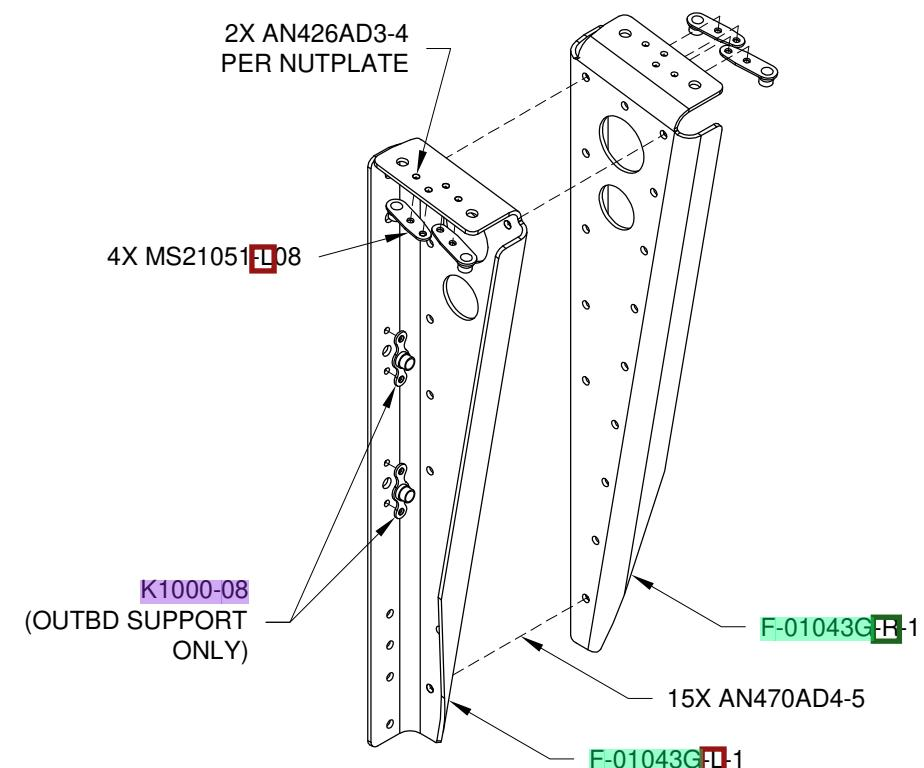

FIGURE 4: FWD SEAT RAIL SUPPORT
Step 4: For the nutplates shown in Figure 4, machine countersink the nutplate attach holes in the two left and two right F-01043G-L-1 & F-01043G-R-1 Fwd Seat Rail Supports for the head of an AN426AD3 rivet.
Step 6: Rivet the F-01043G-L-1 & F-01043G-R-1 Fwd Seat Rail Supports together as shown on Page 28-2, Figure 4 to create the Outbd Fwd Seat Rail Support - Left. Repeat this step to create the Outbd Fwd Seat Rail Support - Right.